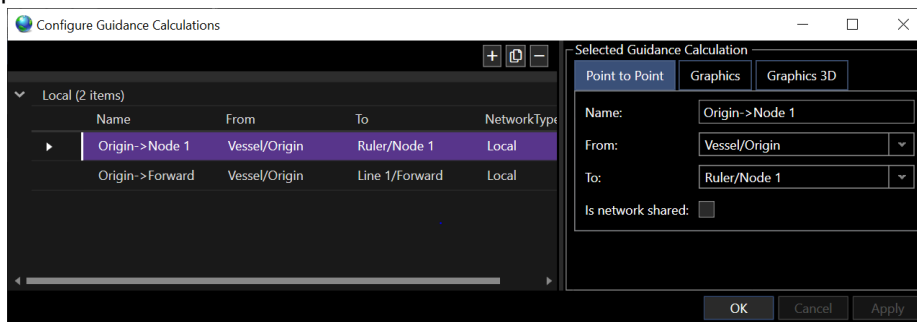

FIGURE 12-4 GUIDANCE CALCULATIONS - SELECTED GUIDANCE CALCULATIONS - POINT TO POINT DETAILS TAB
- Details Tab:** The details tab header will depend on the type of guidance calculation that has been created (see Figure 12-4)